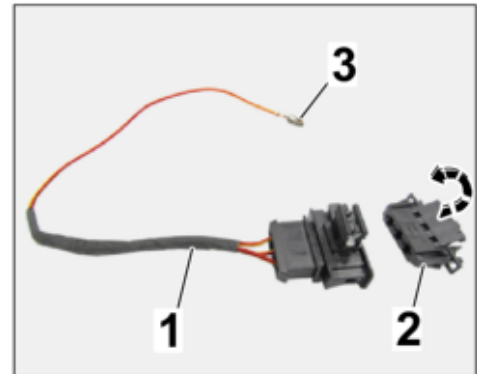

Figure 31
2.6.1 Disconnect plug connection (3-pin) of adapter cable and release/open plug socket (3-pin) (⇒ Figure 31).